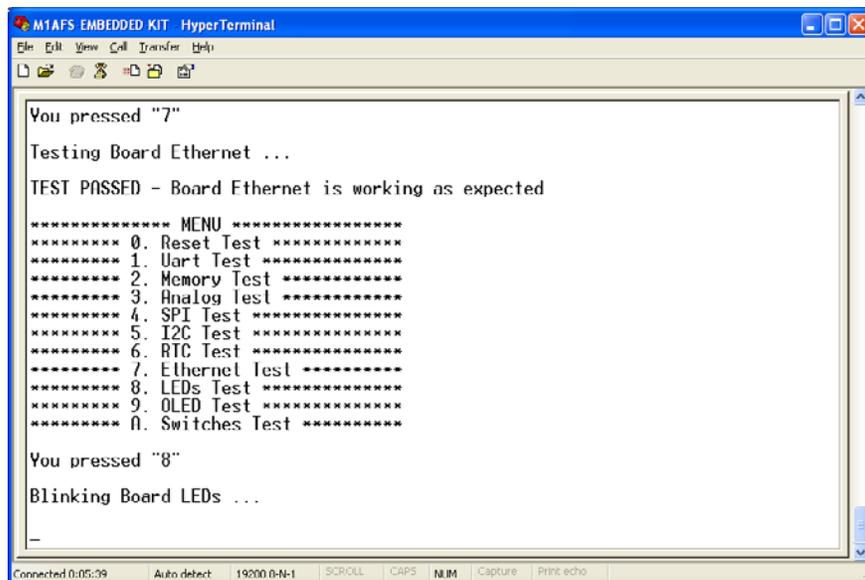

Figure 2-10 · LEDs Test Results
- Enter '8' into the terminal to begin the LEDs test. If successful, the test results appear on the screen (Figure 2-10).